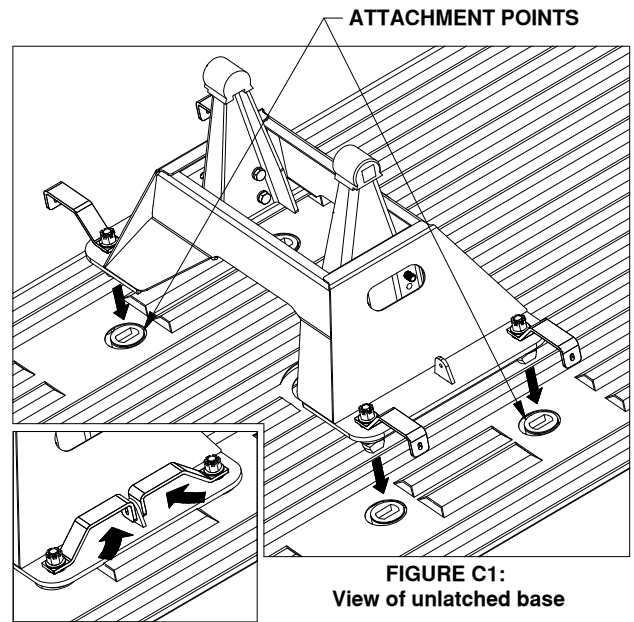

FIGURE C2:
2. **Prepare to adjust latch tension.** Once the base is in place, remove the cotter pins from each of the four castle nuts. Engage the cams with each attachment point by turning the latch handles back to their locked position, see Figure C2. If a handle will not turn easily, loosen the castle nut until the cam will freely turn and engage the attachment point.